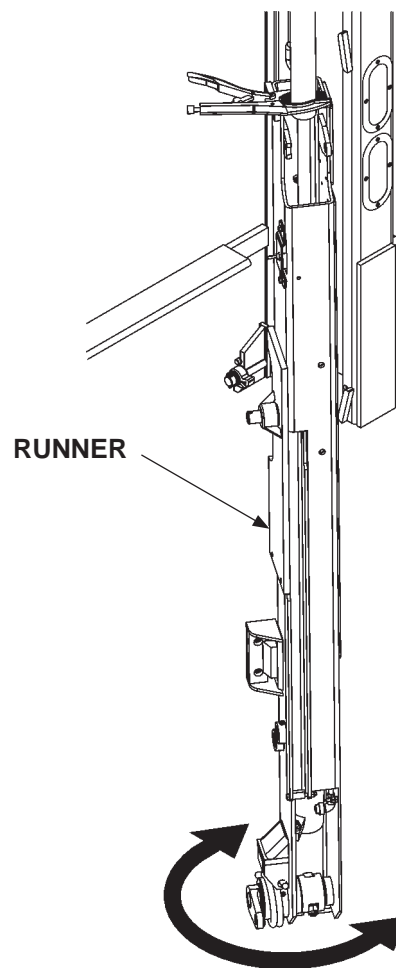

FIG. 27-2
13. Twist and walk runner out of column (FIG. 27-2). Then lay runner and cylinder on the ground.